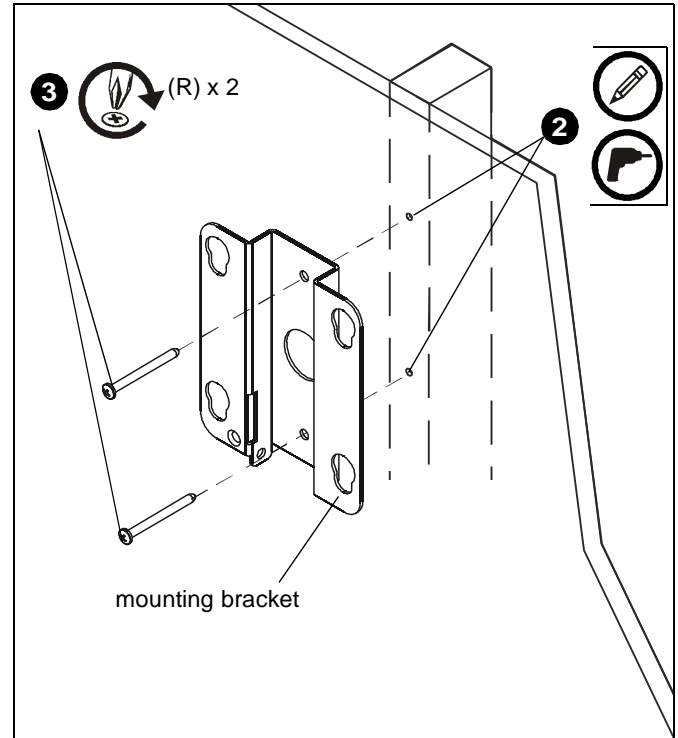

Figure 6
- Using the removed mounting bracket as a template, mark and then drill two 7/64" diameter pilot holes through top and bottom holes of wall bracket into wall. (See Figure 6)
- Install two #12 x 2 1/2" round Phillips wood screws (R) through bracket and drywall into wood stud. (See Figure 6)
- Ensure bracket is vertical, then tighten screws (R).